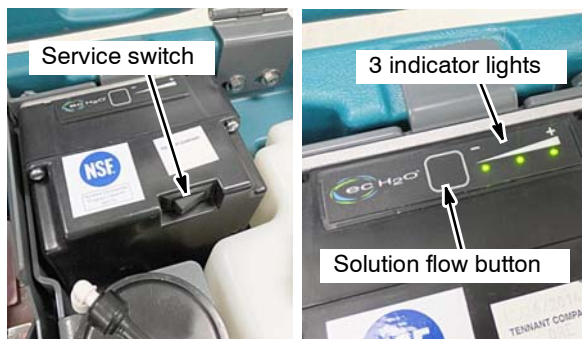

FIG. 130
- b. Press and hold the service switch, located on the ec-H₂O module, for 10 seconds. After releasing service switch, the three solution flow indicator lights will begin to (ripple) move back and forth (Figure 130).
- c. Within 5 seconds after releasing the service switch, while the three indicator lights are moving back and forth, quickly press and release the solution flow button located on ec-H₂O module (Figure 130).